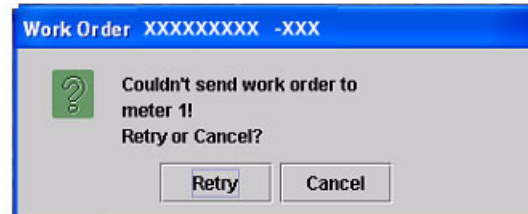

FIG. 59 Couldn't Send Work Order
If the PC cannot send a work order to the chosen meter for any reason, a Retry/Cancel pop-up box, as shown in FIG. 59, will be displayed. Clicking Retry will make the PC attempt to send the work order again. Clicking Cancel will do just that, effectively deleting the work order at the PC; no more retries will be attempted.
4. **Couldn't Send Work Order** See FIG. 59. This message appears when the PC tries to communicate with the meter and receives no response. RF communication is attempted when this screen appears. This message indicates the battery in the meter is removed or needs to be recharged, the transceiver is unplugged, or the RF environment has changed. Correct these conditions and attempt to send the work order again.